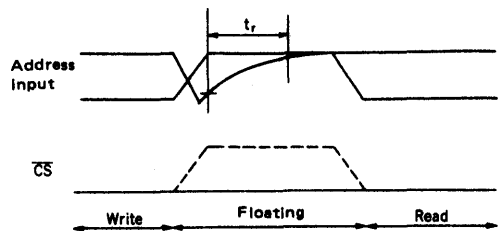

Figure 3-8
- B: Put  $\overline{\text{CS}}$  into High while Address Input becomes floating. (Dotted line in Figure 3.8)
- C: Insert Pull-up Resistor (R) to hold time constant of Rising Edge wave form of Address Input pin ( $t_r = R \times C$ ) below 150 ns.